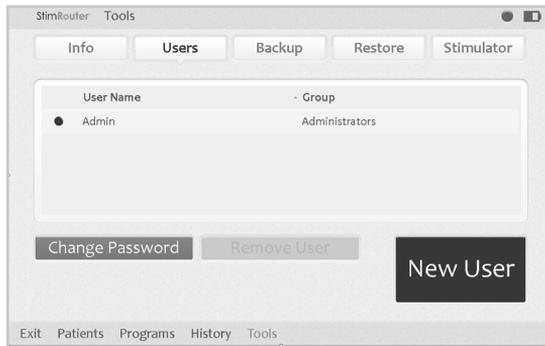

Figure 10-2: Adding a user/administrator
1. Press “Tools” on the Menu Bar, press the Users Tab and then press the “New User” button. See Figure 10-2.